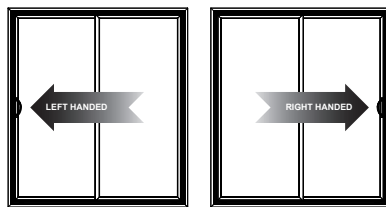

Figure 2 — Handing viewed from exterior (doors shown in closed position)
1. While viewing the door from the exterior, with the active panel in the closed position, the door is right-handed if the handle is on the right. It is left-handed if the handle is on the left (**Figure 2**).